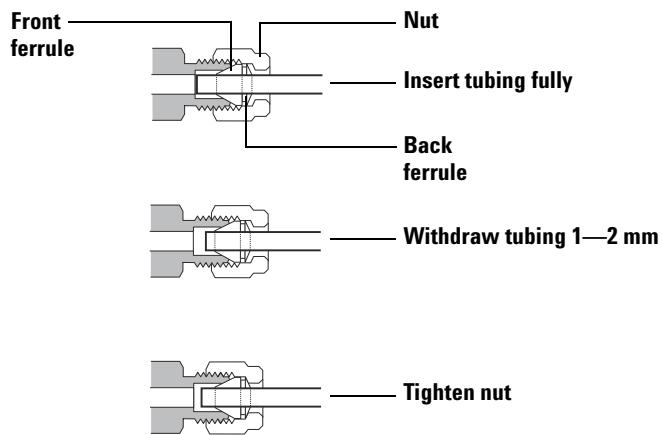

Figure 9 Insert the tubing
- 5 Push the tube fully into the plug, then withdraw it approximately 1 to 2 mm (Figure 9).